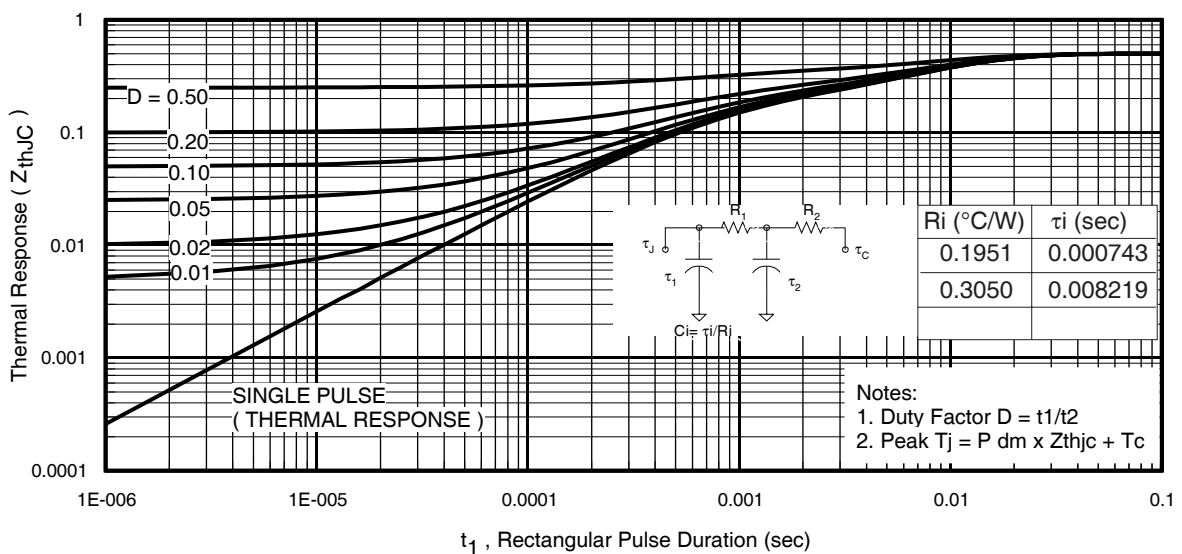
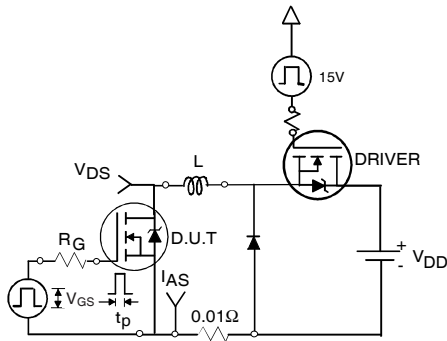

Fig 11. Maximum Effective Transient Thermal Impedance, Junction-to-Case
Fig 12a. Unclamped Inductive Test Circuit
- ① Repetitive rating; pulse width limited by max. junction temperature. (See fig. 11).
- ② Limited by T_{Jmax} , starting $T_J = 25^\circ\text{C}$, $L = 0.049\text{mH}$, $R_G = 25\Omega$, $I_{AS} = 160A$, $V_{GS} = 10V$. Part not recommended for use above this value.
- ③ Pulse width $\leq 1.0\text{ms}$; duty cycle $\leq 2\%$.
- ④ $C_{oss \text{ eff.}}$ is a fixed capacitance that gives the same charging time as C_{oss} while V_{DS} is rising from 0 to 80% V_{DSS} .
- ⑤ Limited by T_{Jmax} , see Fig.12a, 12b, 15, 16 for typical repetitive avalanche performance.
- ⑥ This value determined from sample failure population. 100% tested to this value in production.
- ⑦ This is applied to D²Pak, when mounted on 1" square PCB (FR-4 or G-10 Material). For recommended footprint and soldering techniques refer to application note #AN-994.
- ⑧ R_θ is measured at T_J of approximately 90°C .
3. Equation below based on circuit and waveforms shown in Figures 12a, 12b.
$Z_{thJC}(D, t_{av})$ = Transient thermal resistance, see figure 11)